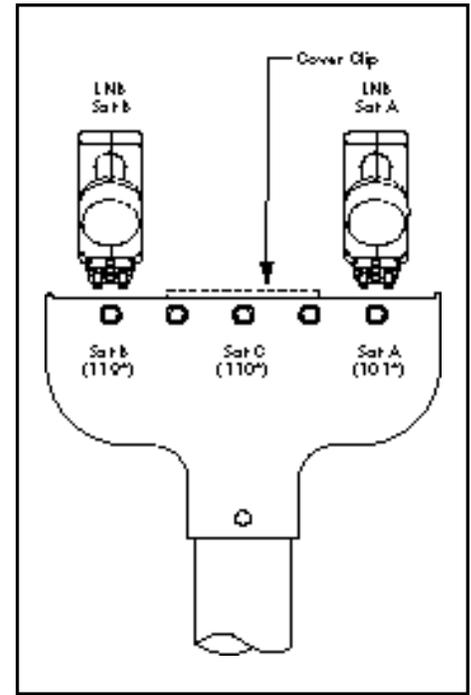

FIGURE 8
14. Install plastic Cover Clip in the Plastic LNB Adapter in the empty space between Sat A and Sat B dual LNBs before mounting LNBs. See Figure 8.
4. Repeat Step 3 for inserting the two coaxial cables (labeled “**Sat B**” on both ends) in the other side of the feed tube and connect to the second LNB that will be mounted in position marked “**Sat B**”. Tighten all cable connectors on both LNBS. See Figure 8.